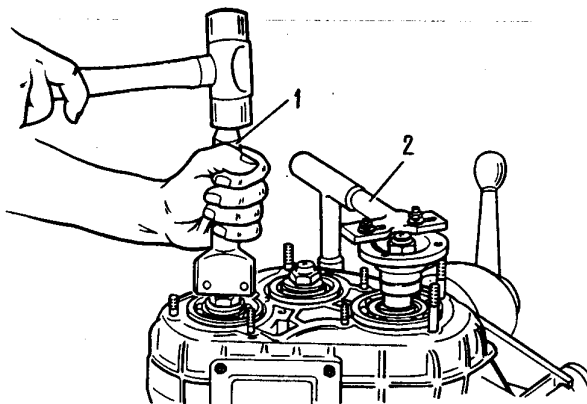

Fig. 3-49. Upsetting Rear Axle Drive Shaft Flange Nut:
- for upsetting the nuts of the transfer case shafts use fixture 67.7820.9520 (Fig. 3-49).